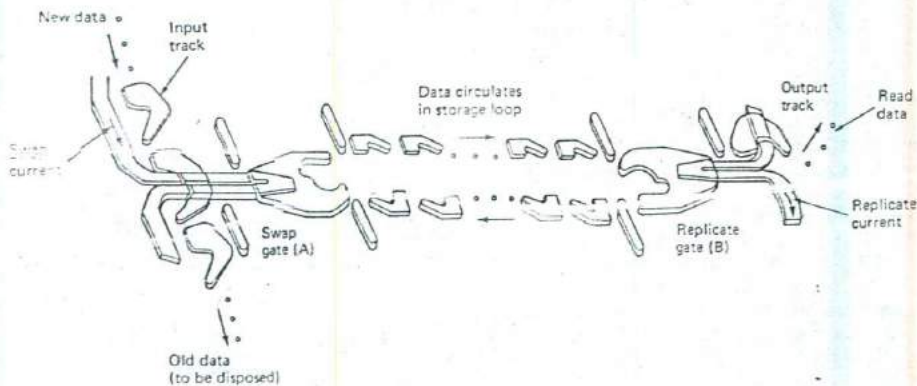

Fig. 13-44 Swapping and replication (Intel).
A swapping procedure is used to transfer data (bubbles) from the input track to the storage tracks. The old data are brought back onto the input track for disposal at the end of the line, and the new data take their place in the storage loop. This occurs at the swap gate shown in Fig. 13-44 and is accomplished by sending a rectangular swap pulse through a conductor located under the chevrons. When data are to be read, the bubble is cut in two at the replicate gate by applying a current pulse with a steep leading edge. This process replicates the bubble for the output track, and the original data are retained in the storage loop. This is an example of *nondestructive readout*.
36. With no swap pulses applied in Fig. 13-44, what happens to the data in the storage loop?